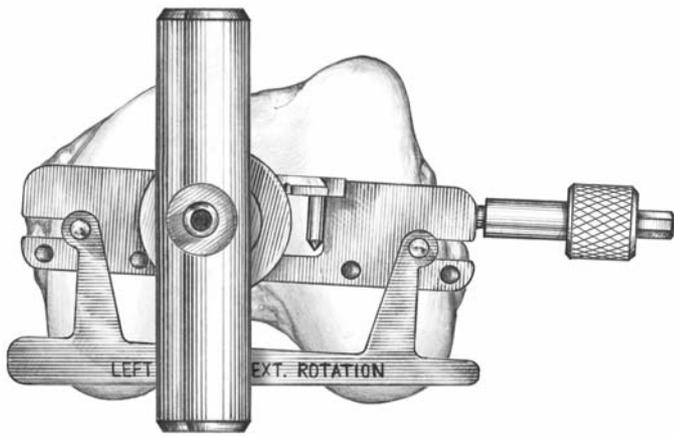

Figure 8
- ▶ Place the 3 degree External Rotation Guide into the slots of the Femoral Alignment Guide taking care to assemble the guide in the appropriate left or right orientation. Use this guide to judge equal amounts of medial and lateral posterior condyle (Fig. 8). If the posterior condyles are a deficient reference due to bone deformity, the guide should be aligned with the epicondyle using the epicondylar referencing guide.